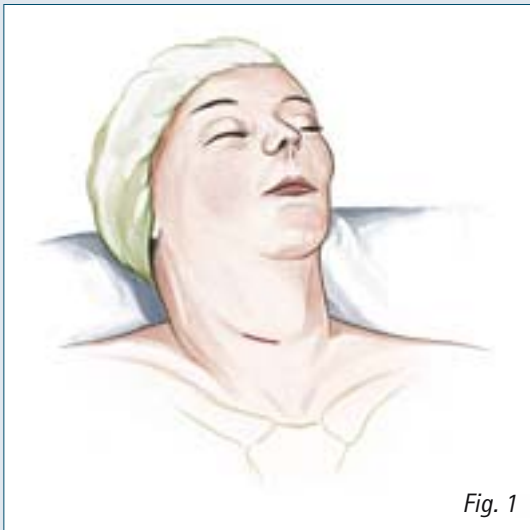

Fig. 1
The intrinsic radiosopic transparency of the material provides permeability on X-rays and CT scans, allowing to visualize bone growth adjacent to the implant. This allows quick and simple assessment of the bone structure and progress towards bone fusion. To verify the position of PEEK implants on radiosopic images, non-radiolucent tantalum marker were integrated serving as location marker (Fig. 1).
- The patient is placed in the supine position with the head slightly reclined (Fig. 1) and stabilized in a head holder. Once the lordotic cervical spine has been supported, the thorax may be placed on a pillow to emphasize the reclination of the cervical spine. The arms are fixed along the sides of the body.